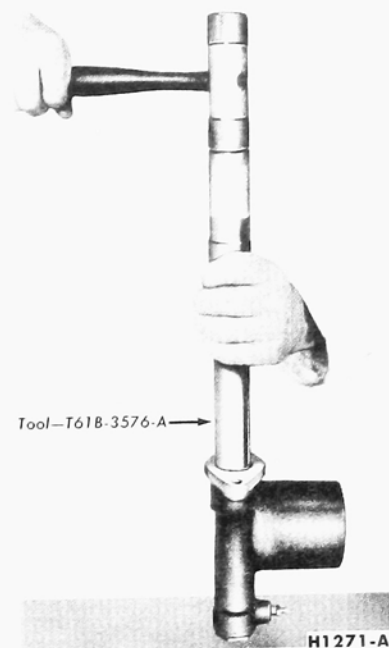

FIG. 21—Master Cylinder Bushing Installation
6. Being careful not to scratch the surface of the push rod, slide all the bushing and seal components against the retaining flange at the rear of the master cylinder bore. Force the parts into place with the tool shown in Fig. 21, and install the bushing snap ring.